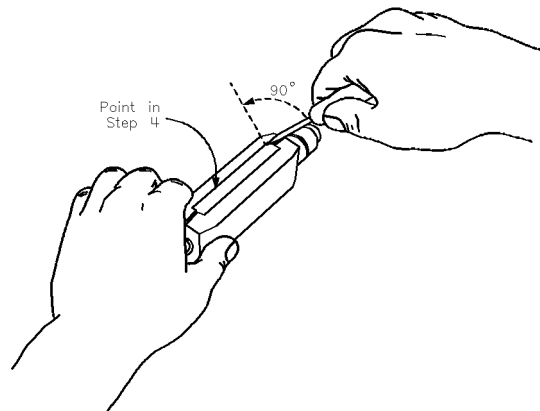

Figure 7-1. Removing the Detector Covers
1. Place the detector with its narrow side on a flat surface, with the RF connector facing away from you. (See Figure 7-1.)
2. Holding the sides of the detector near the cable end, insert a small flat-blade screwdriver with a blade no greater than 3.5 mm (1/8 in) between the side label and the raised edge. (See Figure 7-1.)
4. Repeat steps 2 and 3, inserting the screwdriver approximately 2/3 of the way toward the cable end of the detector. (See the point shown in Figure 7-1.)
5. Separate the plastic shell halves. If the cover does not separate easily, repeat steps 2 through 4 on the other side of the detector. (See Figure 7-1.)